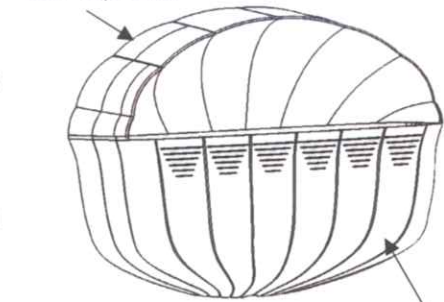

Fig. 8
3. Attach the cover shell (fig. 8 & 9)